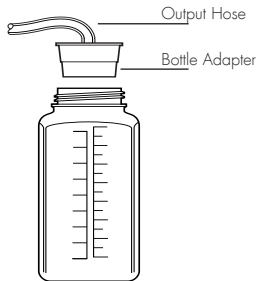

Figure 2-1
The EasyFill Bottle Adaptor (Figure 2-1) conveniently attaches directly to different sized water containers.
2. Insert the EasyFill Bottle Adaptor into a clean water container or connect hydration connector to bladder* . (Figure 2-1, 2-2)